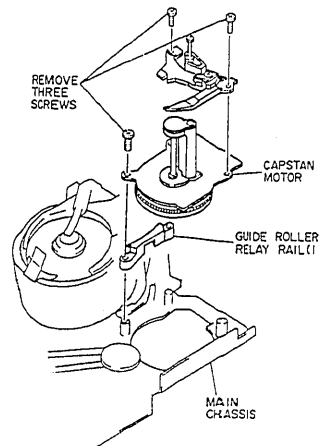

Fig. 2-51
1) Remove three (3) screws and remove the capstan motor from the main chassis. (See Fig. 2-51)
- (2) Guide Roller Relay Rail (1)
2) Pull out guide roller relay rail (1) from the main chassis. (See Fig. 2-51)